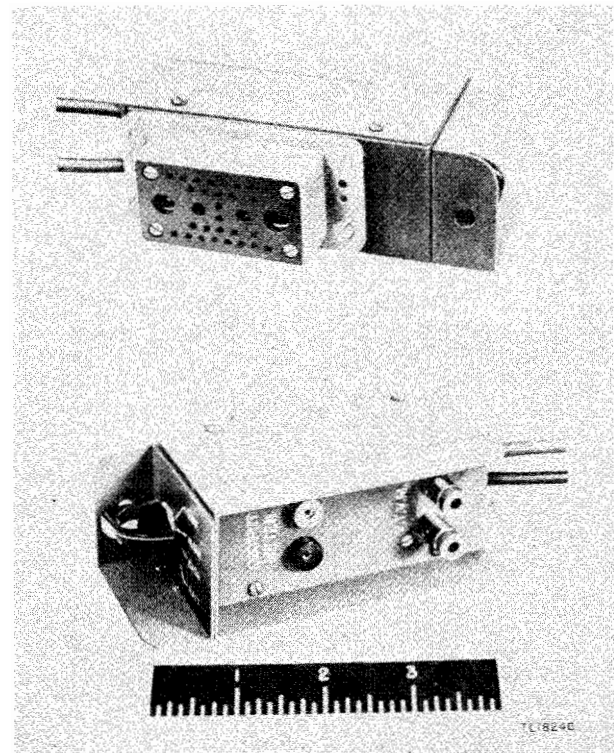

Figure 19. Adapter FT-384-(*)—front and back views.
b. Connect the receiver to the appropriate battery, using either mounting FT-237-(*) fig. 17 and Cord CD-786, or Adapter FT-384-(*). (See fig. 19.)